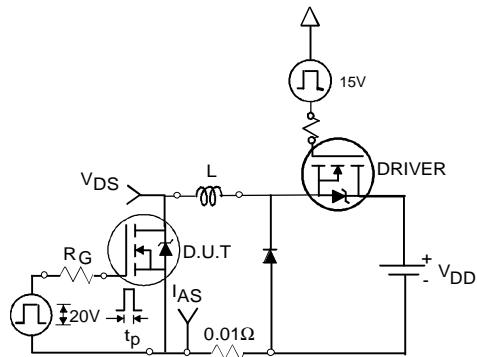

Fig 12a. Unclamped Inductive Test Circuit
3. Equation below based on circuit and waveforms shown in Figures 12a, 12b.
- ③ $I_{SD} \leq 101\text{A}$, $\text{di}/\text{dt} \leq 210\text{A}/\mu\text{s}$, $V_{DD} \leq V_{(BR)DSS}$, $T_J \leq 175^\circ\text{C}$
- ④ Pulse width $\leq 400\mu\text{s}$; duty cycle $\leq 2\%$.
- ⑤ C_{oss} eff. is a fixed capacitance that gives the same charging time as C_{oss} while V_{DS} is rising from 0 to 80% V_{DSS} . Refer to AN-1001
- ⑥ Calculated continuous current based on maximum allowable junction temperature. Package limitation current is 95A.
- ⑦ Limited by T_{Jmax} , see Fig.12a, 12b, 15, 16 for typical repetitive avalanche performance.